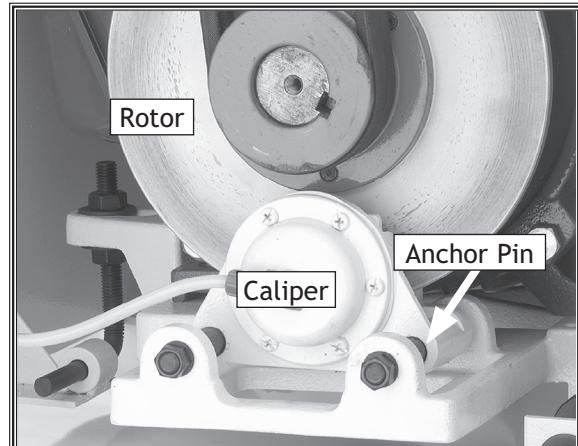
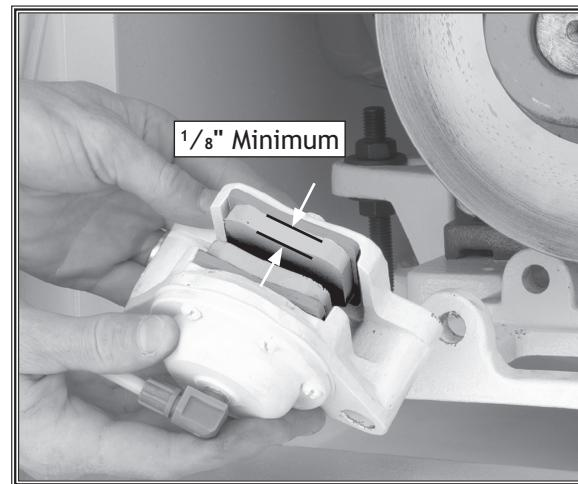

Figure 25. Brake assembly.
Figure 26. Brake caliper removed for access to brake pads.
Check the brake rotor (shown in **Figure 25**) regularly to make sure it is clean and the pads are still in good condition (see **Figure 26**). Using the emergency stop system for daily machine shutdown will wear out the sanding belts and the brake pads. Inspect for any grease or oil on the brake rotor as oil reduces emergency braking ability. To clean any lubricants from the rotor, only use automotive brake parts cleaner and a dry rag. Replace brake pads if they are contaminated with oil or if you suspect they are failing. DO NOT re-use oily brake pads!
3. Measure the thickness of each pad, if a pad is below $1/8$ " (**Figure 25**), then replace both brake pads.
2. Use a 14mm wrench and remove the two caliper anchor pin retaining nuts and washer (see **Figure 25**).
3. Use locking pliers to clamp on the anchor pin end and pull the pin from the caliper mount, and remove the springs and caliper (see **Figure 26**).